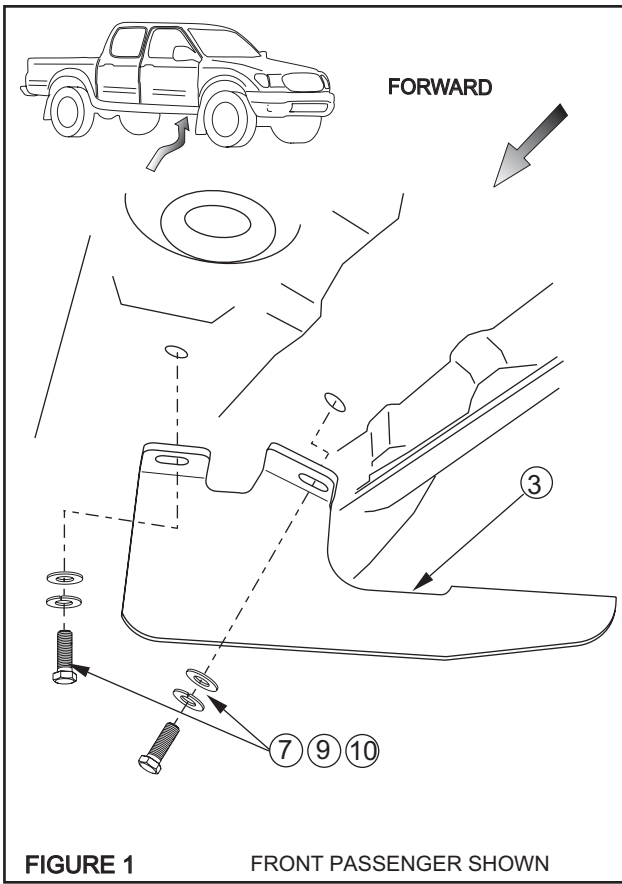

FIGURE 1 FRONT PASSENGER SHOWN
- STEP 2. Attach mounting brackets as shown. See Figures 1 and 2.